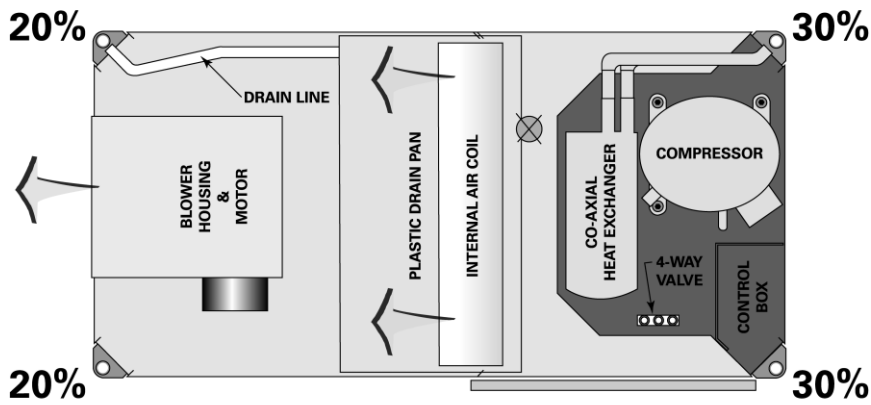

Figure 39: Approximate weight distribution
- 1 Approximate weight distribution for the GEH model is indicated in Figure 39.